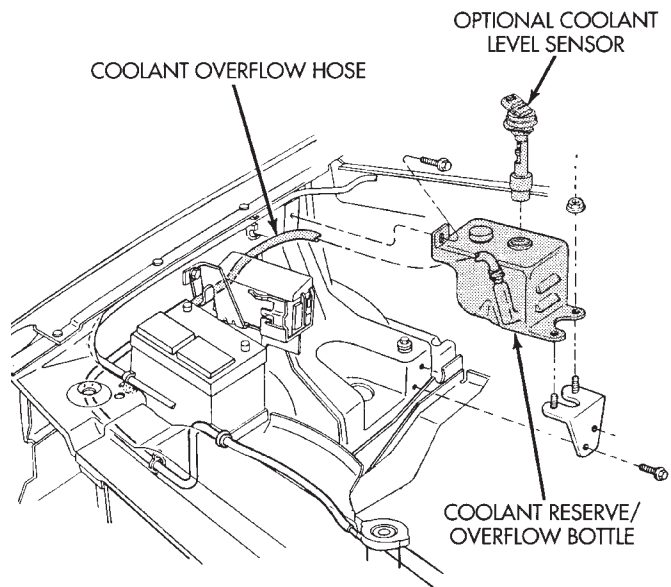

Fig. 9 Coolant Reserve/Overflow Bottle—Typical
- (6) Remove the coolant reserve/overflow bottle (Fig. 9).